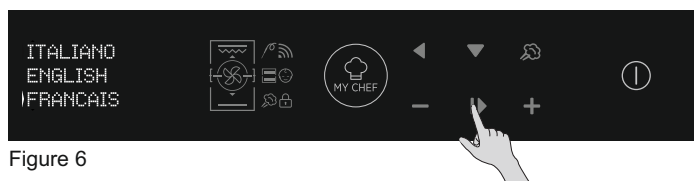

Figure 6
- Press OK to go ahead. (Figure 6)